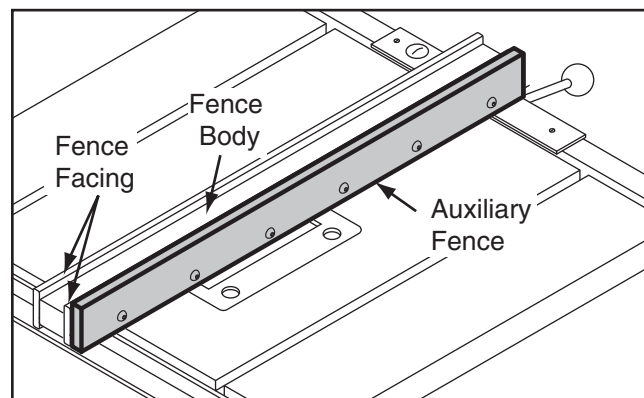

Figure 65. Auxiliary fence.
6. Attach fence face (removed in **Step 2**) and auxiliary fence to fence body with (6) #8 x 2" wood screws. The end result should be similar to **Figure 65**.